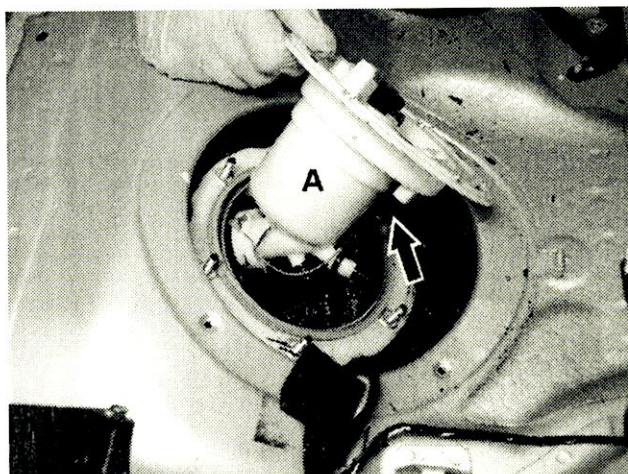

Figure 5
5. Disconnect harness connector (arrow, Figure 5) from fuel filter (A).